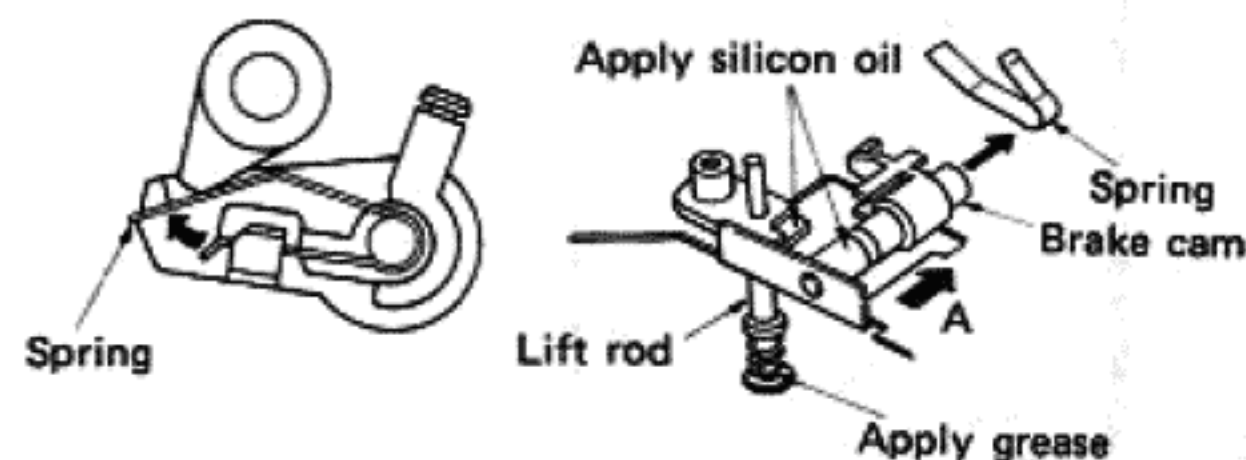

Fig. 10
2. Remove the brake cam spring (Fig. 10), pressing it in the direction of the arrow.